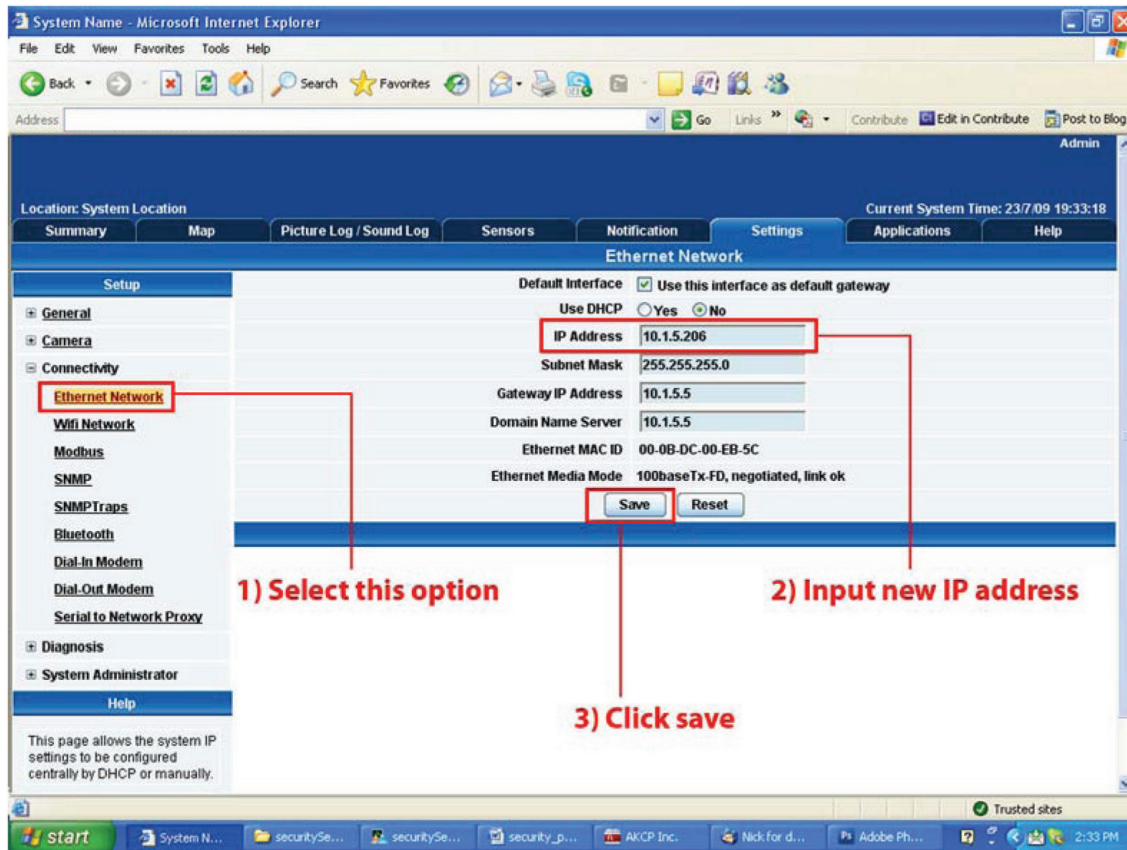

Figure 3-4. Ethernet network screen.
5. Click on “Ethernet network” from the list on the left frame of the page. See Figure 3-4.